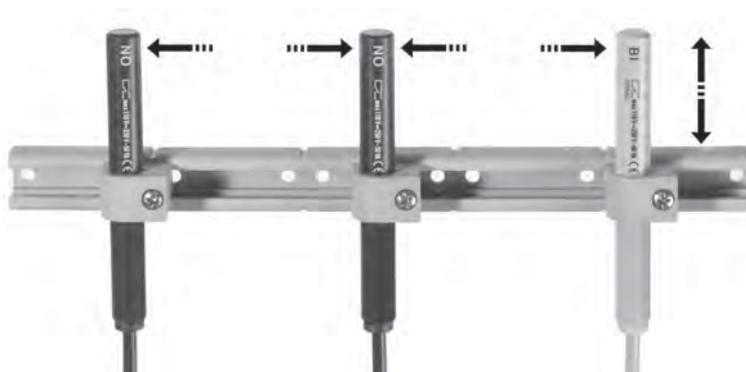

FIG. 2
*STEM is suitable to supply a **preassembled lift control system** according to customer's specific requests; particularly distances X, Y, concerning the configuration shown in figure 1, and distances X1, X2, Y concerning the configuration shown in figure 2, are adjustable.*